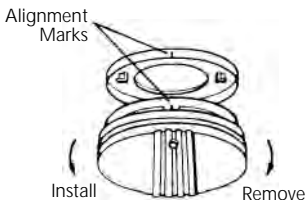

FIGURE 7
6. Alignment marks are provided on the edge of the trim plate and the alarm. After installing the mounting plate, place the alarm on the mounting plate with the alignment marks lined up. Twist the alarm in the direction indicated by the "ON" arrow on the alarm cover (see figure 7) until it locks in place.
To replace the battery, remove the alarm from the mounting plate by rotating the alarm in the direction of the "OFF" arrow on the cover (see figure 7).